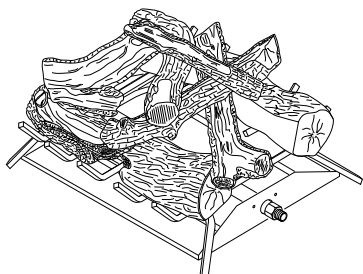

Figure 10 - Placement of Top Logs
5. Place the smaller top logs onto the bottom logs (see Figure 10). Leave as much open space between logs as possible to minimize flame impingement and sooting. *Note:* Logs may chip if they are handled roughly or if hit together while being placed.